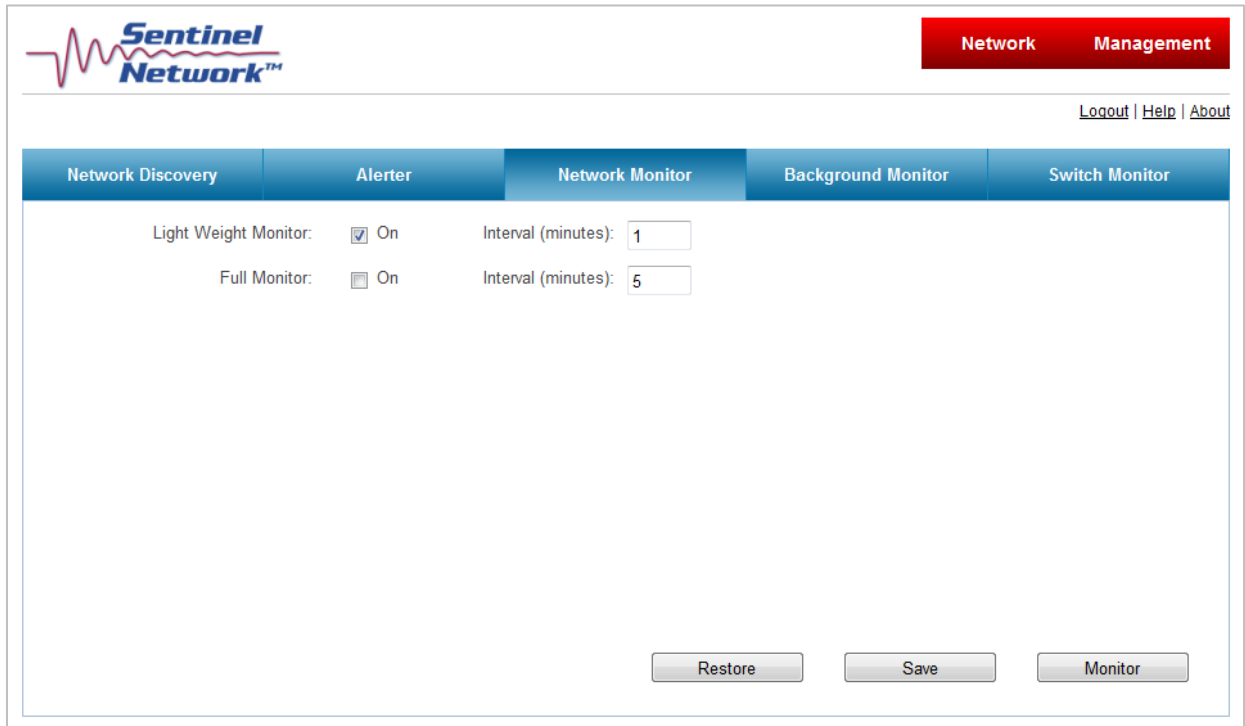

Figure 10: Lightweight monitoring window
4. Select the **On** check box for Lightweight Monitor (Figure 10).
3. Select the **On** check box for **Full Monitor** (refer to Figure 10) and clear the check box for lightweight monitoring.